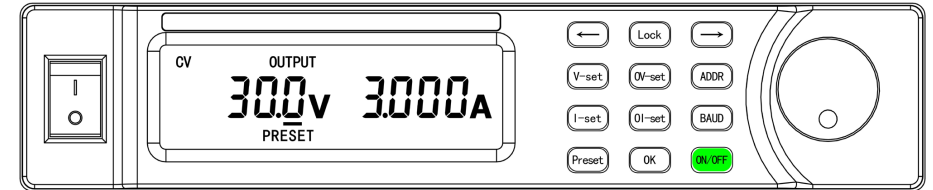

Fig.5-8
- Press V-set key and then press PRESET key to enter preset voltage mode (refer to Fig.5-8).